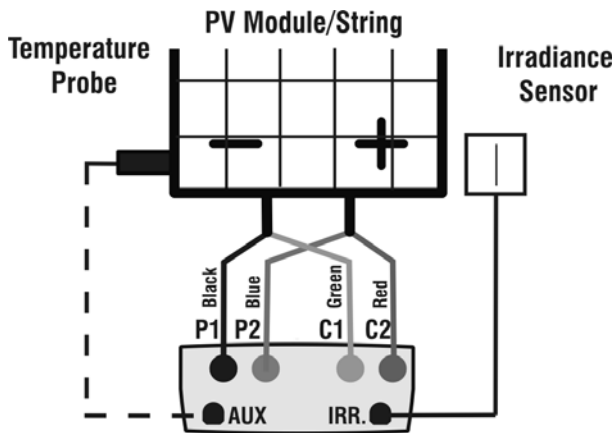

Fig. 7a: Instrument connection to module/string FV
19. Connect the meter to the module/string under test as shown in Fig. 7a. In particular, connect the negative output pole of module/string to P1, C1 input terminals and the positive output pole of module/string to P2, C2 input terminals